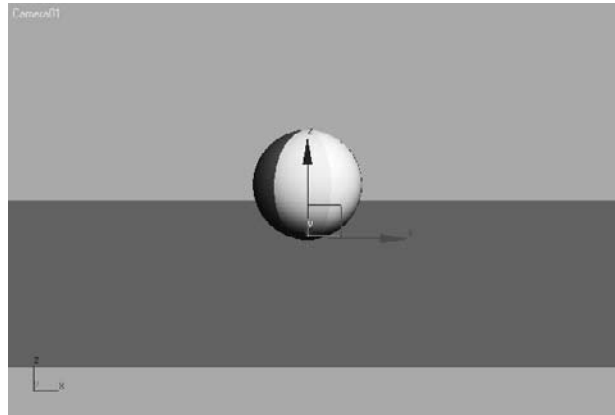

Figure 8.17
2. Turn on the Auto Key button (keyboard shortcut N) and move the timeline to frame 10. Select the ball and move it along the Z-axis down to the ground plane. That will be 0 units in Z when you release the mouse button in the Transform type-ins on the bottom of the interface. You can also just enter the value and press Enter (Figure 8.17).